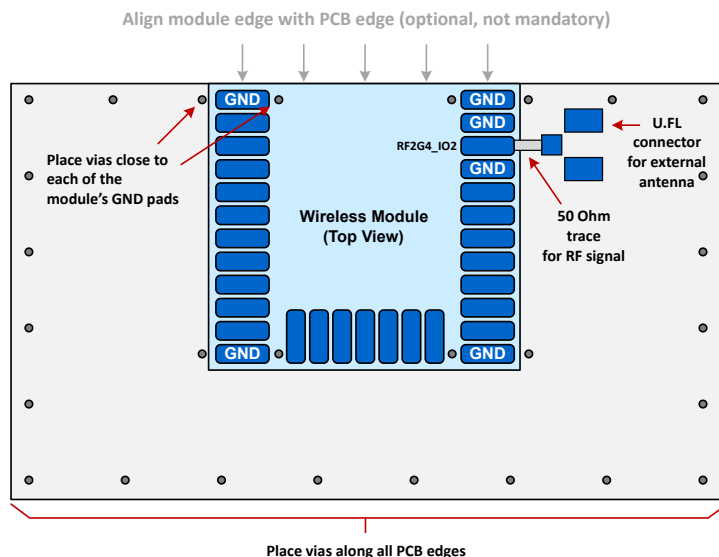

Figure 7.2. Recommended Layout for MGM210P Using External Antenna
- For external antenna use cases, use a 50 Ω grounded coplanar transmission line to trace the signal from the RF pin to an external RF connector if applicable (see Figure 7.2 Recommended Layout for MGM210P Using External Antenna on page 33).